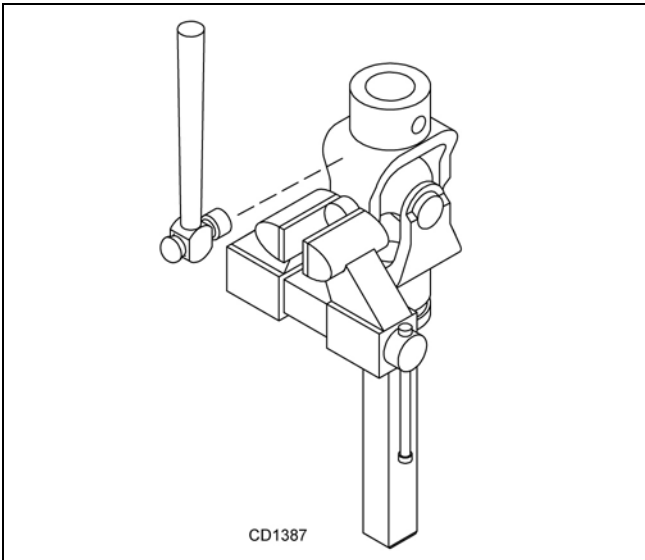

Figure 26. Remove Cups
3. Clamp cup in vise as shown in Figure 26 and tap on yoke to completely remove cup from yoke. Repeat Step 2 and Step 3 for opposite cup.